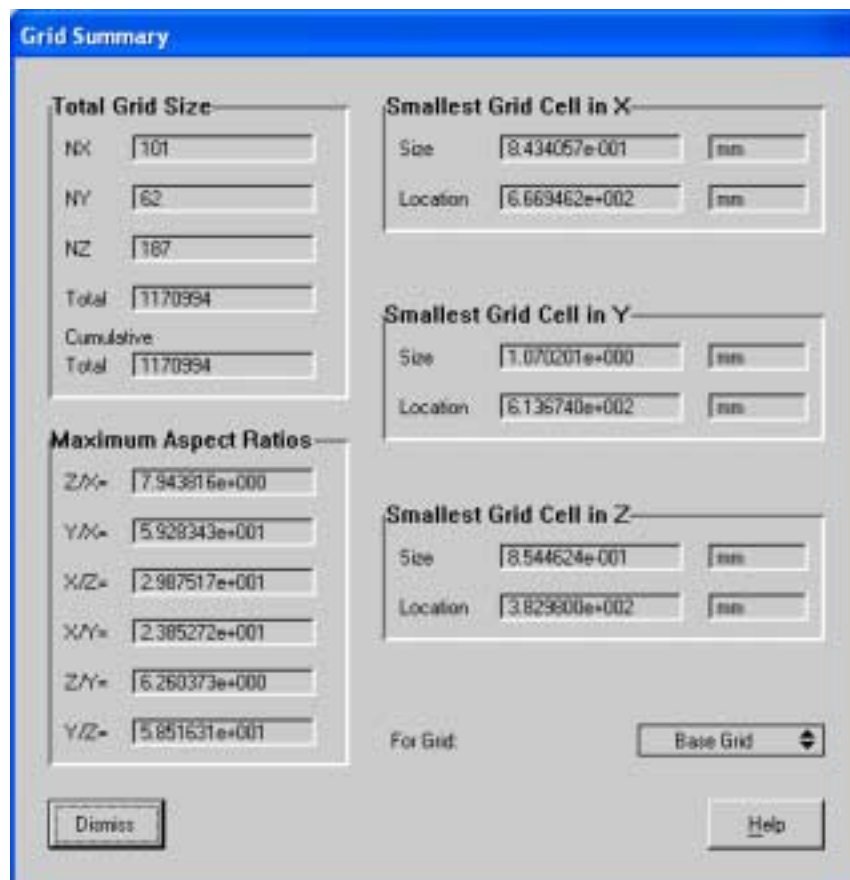

Fig. 1 Grid Summary
- Figure 1 below shows the grid summary for this model.